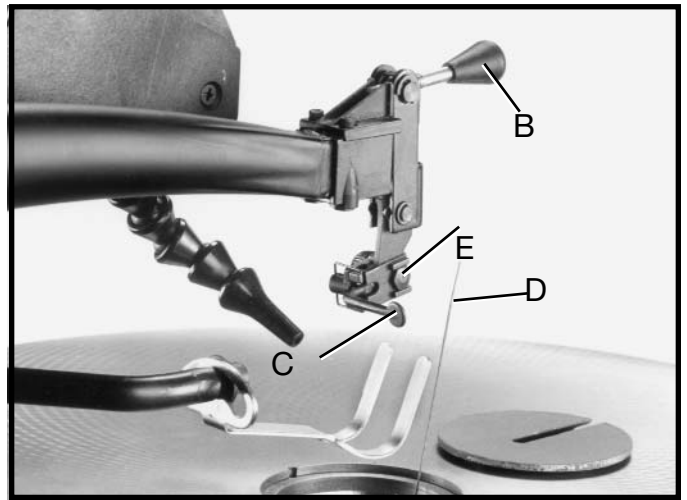

Fig. 25
3. Push blade holder clamping lever (C) Fig. 25, to the rear as shown. This will automatically release the blade (D) from the upper blade holder (E).
7. Apply blade tension by referring to section, "ADJUSTING BLADE TENSION." NOTE: NEVER push down on blade tension knob (B) Fig. 25, to compress tension spring.